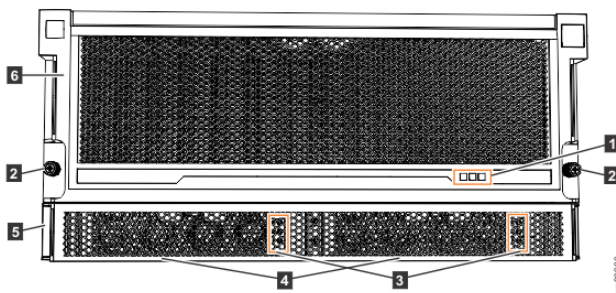

Figure 51. Features on the front of the 5U expansion enclosure
Important: Before you connect the power cables to the rear of the enclosure, always check that the expansion enclosure is secured in the rack. If needed, tighten the thumbscrews on the front of the enclosure (2 in Figure 51 on page 93) to ensure that the enclosure drawer does not roll open.
The 5U expansion enclosure has two power supply units (PSUs) that are accessible from the front of the enclosure (4 in Figure 51 on page 93). As the figure also shows, the PSUs are covered by the 1U fascia (5).
On the front of the enclosure, the indicators on the front display panel and each PSU (1 and 9 in Figure 51 on page 93) are also lit when the power is connected. See “High density expansion enclosure LEDs and indicators” on page 223 for information about the status that is provided by the indicators.